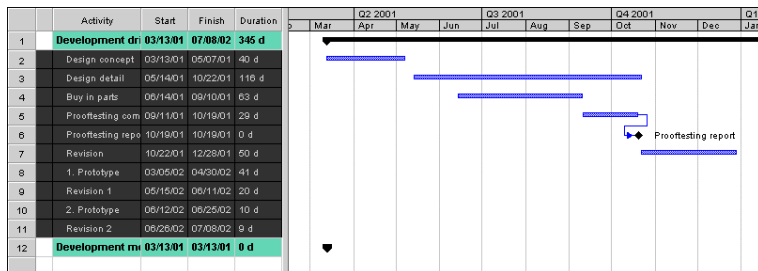

Figure 30: Multiple activity choice
1. Highlight the row to be copied. To highlight several rows at once, hold down the left mouse button and drag the mouse cursor over the appropriate row numbers (Figure 30).